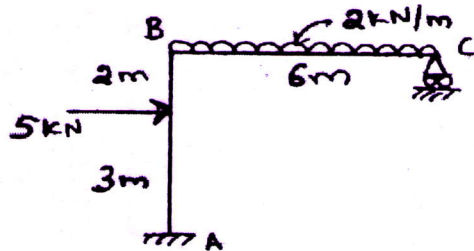

Figure.6
- 4 a) Discuss steps in flexibility method of analysis in a truss (3)
- b) Analyse the frame shown in figure.6 using flexibility method and draw bending moment diagram (12)
- 6 a) Discuss the need of force transformation matrix and displacement transformation matrix (5)
- b) Define equilibrium and compatibility (2)
- c) What is meant by equivalent joint loads? Form the equivalent joint load diagram for the frame shown in figure.6. (8)